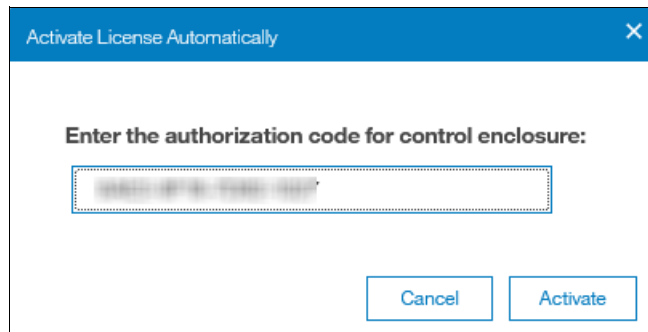

Figure 6-89 Activate license automatically pane with authorization code entered
3. In the **Enter the authorization code for control enclosure** field on the Activate License Automatically pane, enter the authorization code that is specific to the control enclosure that you selected (Figure 6-89).